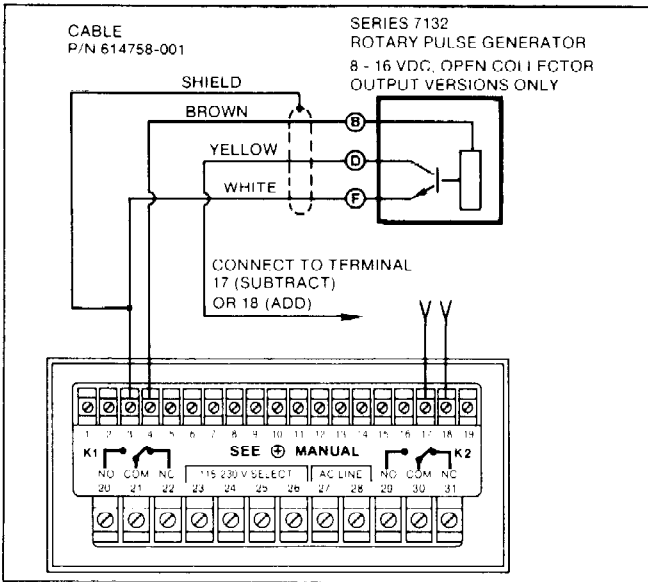

Figure 4-12. Connection of a Veeder-Root Series 7132 Unidirectional Rotary Pulse Generator.
b. For connection of a Veeder-Root Series 7132 Unidirectional Rotary Pulse Generator, refer to Figure 4-12.